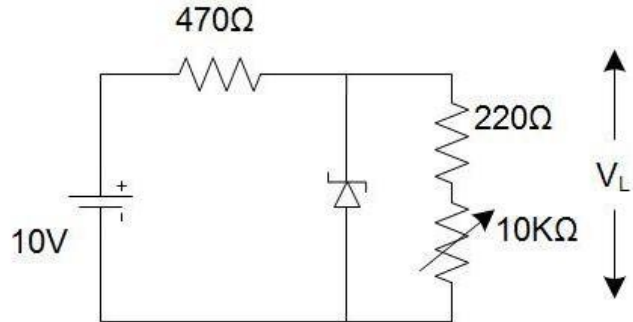

Figure 5.4: Load Regulations
3. 2Connect the circuit as shown in the figure 5.4